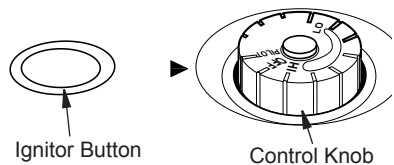

Figure 18 - Control Knob in the OFF Position
- Wait five (5) minutes to clear out any air. Then smell for gas, including near the floor. If you smell gas, STOP! Follow "B" in the safety information on page 16. If you do not smell gas, go to the next step.
- Turn control knob counterclockwise ↶ to the PILOT position. Press in control knob for five (5) seconds (see Figure 18).